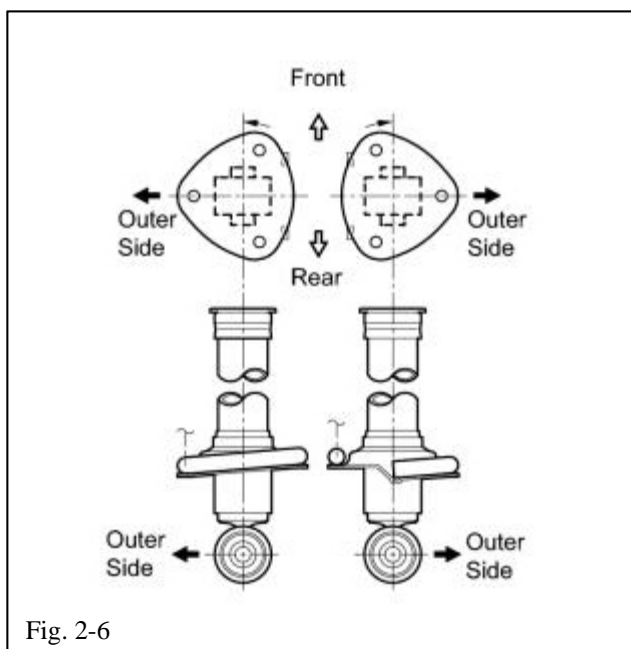

Fig. 2-6
- (i) Ensure that the left (driver's side) coil spring end faces towards the front of the vehicle and the right coil spring end faces towards the rear (Fig. 2-6).